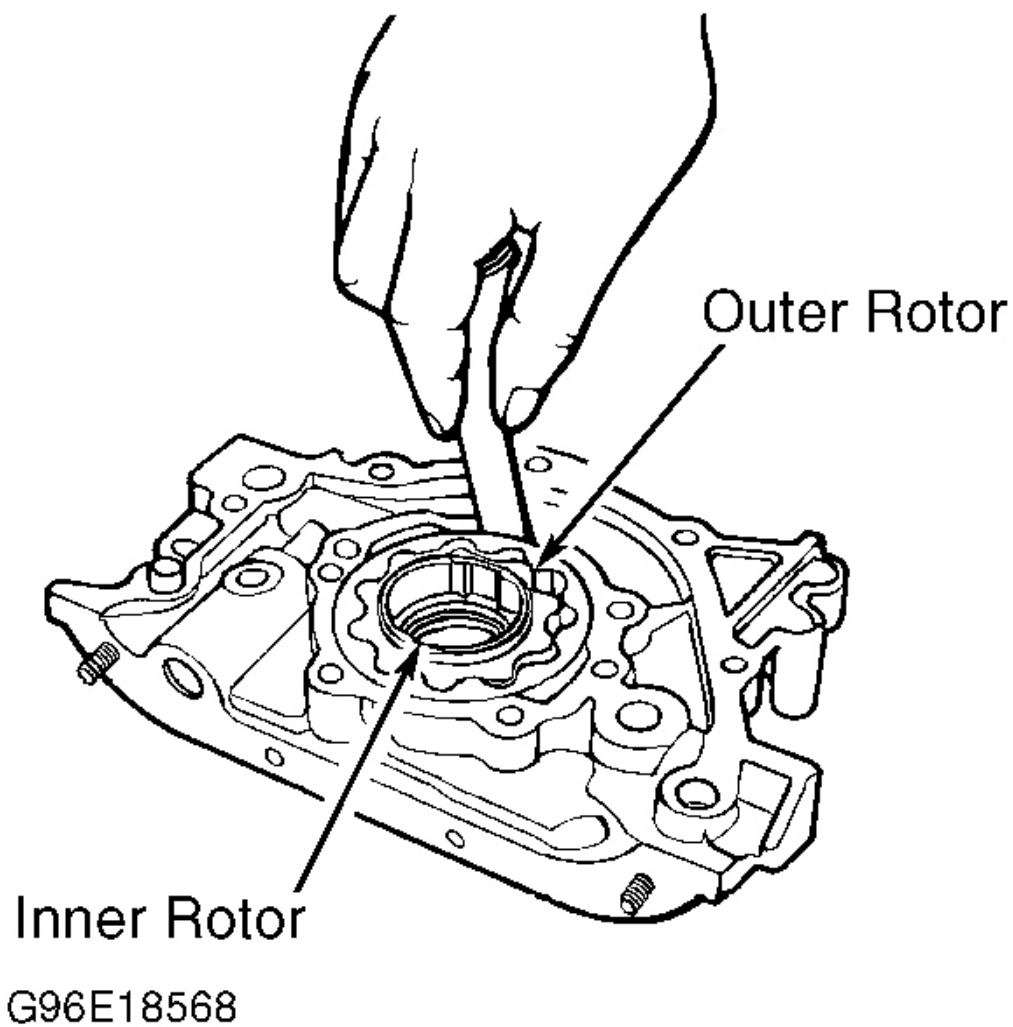
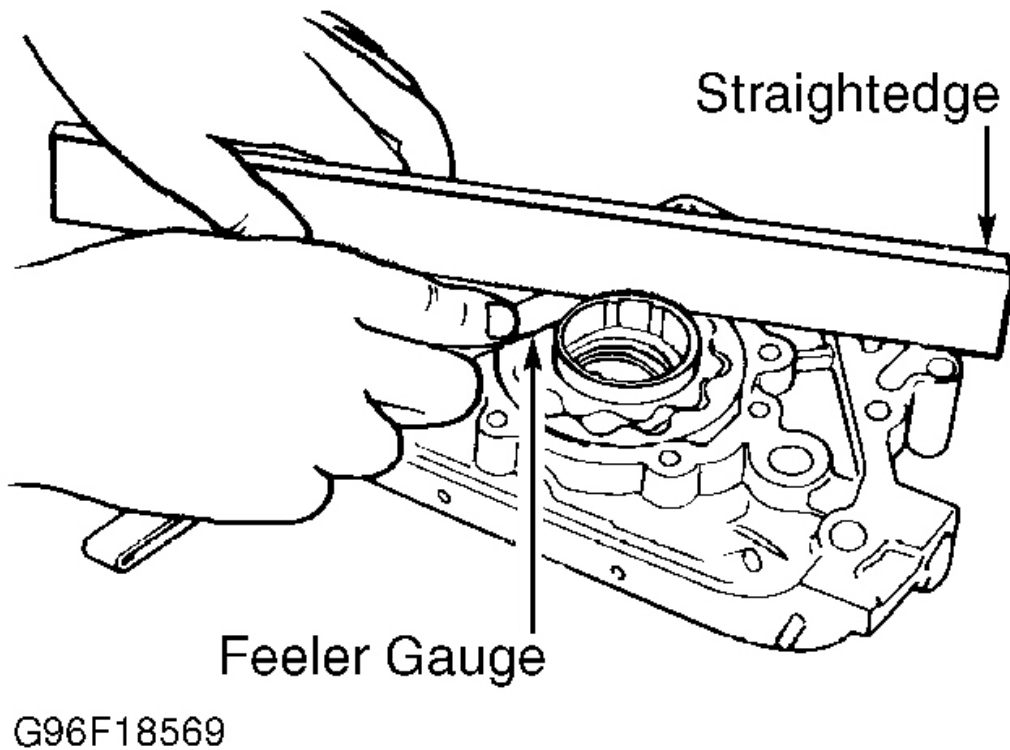

Fig. 17: Checking Oil Pump Radial Clearance
Fig. 18: Checking Oil Pump Side Clearance
2. Inspect oil pump gears for wear or damage. Using a feeler gauge, measure radial and side clearance. See **Fig. 17** and **Fig. 18** . If clearance exceeds specification, replace outer rotor or case. See **OIL PUMP SPECIFICATIONS** table.